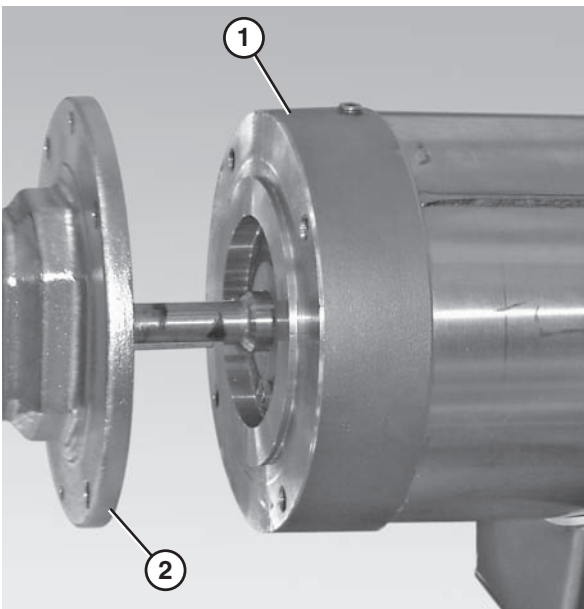

Figure 33
6. Detach the motor (Figure 33, item 1) from the gear reducer (Figure 33, item 2).